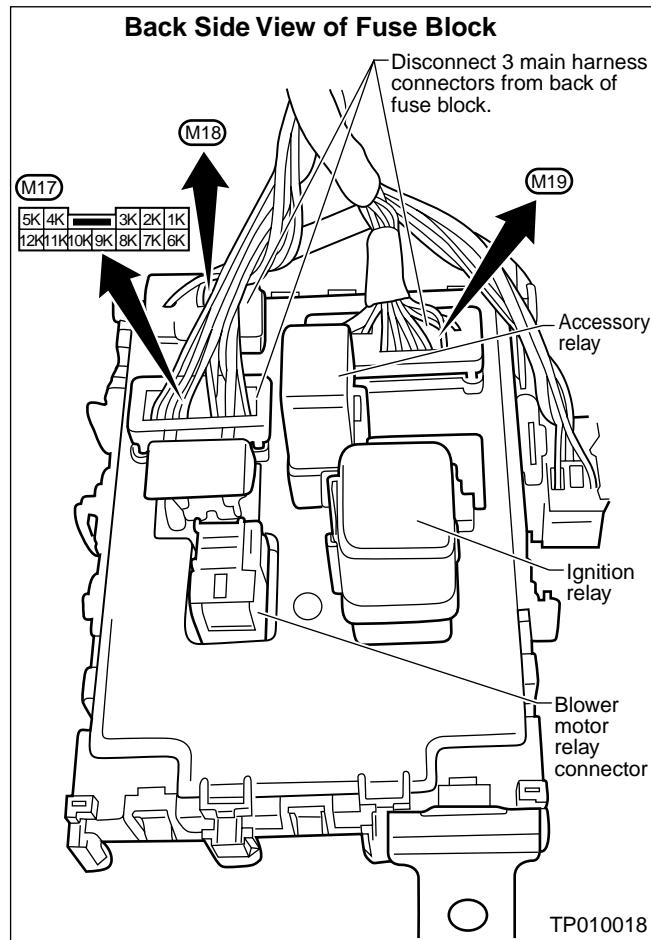

Figure 5
9. Disconnect the 3 main harness connectors (M17, M18, and M19) from the back side of the fuse block (see Figure 5).